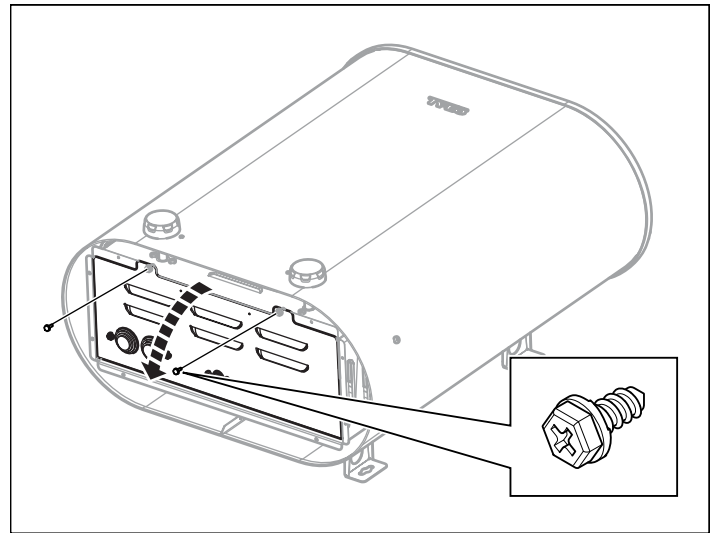

Figure 5: Opening/closing the cover
2. Slacken the screws and open the cover (see Figure 5, Page 6).
- 4. Close the cover and tighten the screws (see Figure 5, Page 6).